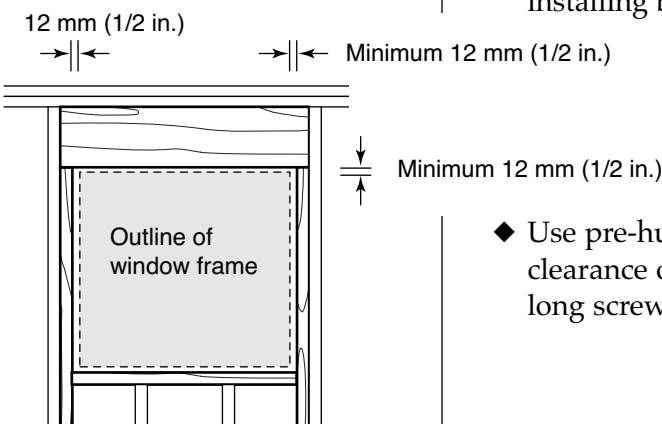

FIGURE 20
- ◆ Ensure that rough openings are at least 12 mm (1/2 in.) wider and 12 mm (1/2 in.) higher than the window or door frame size. Some manufacturers recommend 40 mm and 20 mm (1-1/2 in. and 3/4 in.) respectively (see Figure 20).